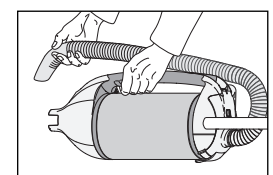

Figure 7
Detachable Suction Unit - Figure 7
When detached from the power head, or floor tool, the FELIX transforms itself into a lightweight, powerful suction unit, which can be carried around using its comfortable carrying handle (figure 7). Ideal for cleaning stairs, car interiors or upholstery. To remove a floor tool or power head, switch off the power and unplug the vacuum. Press the tool release button (14) and pull the vacuum out of the swivel neck (20).